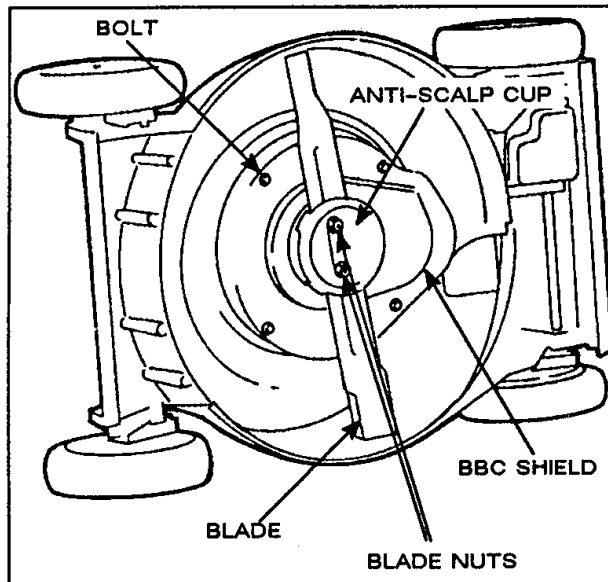

Figure 31
4. Remove (2) blade nuts, anti-scalp cup, blade, blade spacer, and (4) bolts securing BBC shield to mower deck (Figs. 31 & 32).